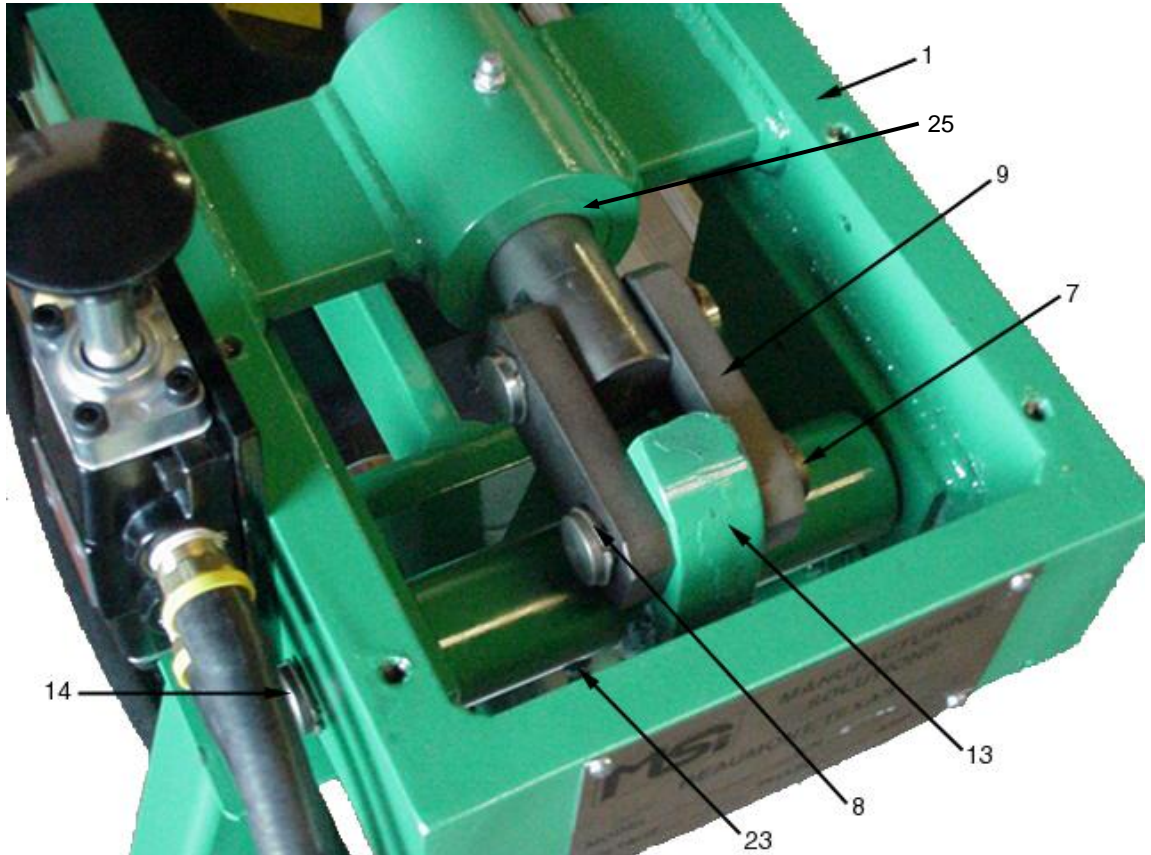

Figure 4: Parts under yellow guard.
MONTHLY – Grease, with a grease gun: 1. the plunger through the zerk (23) on top of the machine, and 2. the pivot arm through the zerk on the cross shaft under the bottom of the shaft (Figure 4).